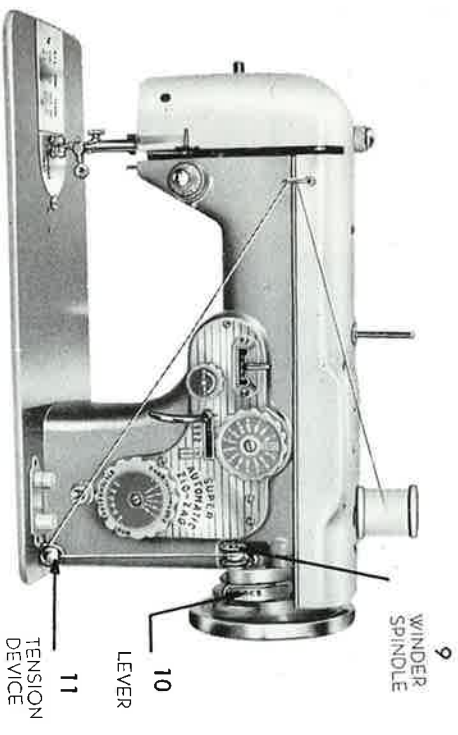

Fig. 2
2. Place a spool of thread on the spool pin (Fig. 2). Pass the thread through the tension discs at the right corner of the base of the machine.
4. Now wind the end of the thread around an empty bobbin seven or eight times and place the threaded bobbin on the spindle ⑨ of the bobbin winder.
5. By pressing on the bobbin winder lever ⑩ the small rubber wheel is brought in contact with the balance wheel. To lock into position, press bobbin winder lever until a click is heard. The bobbin winder release latch is now touching the shaft of the bobbin. It holds the bobbin in place.